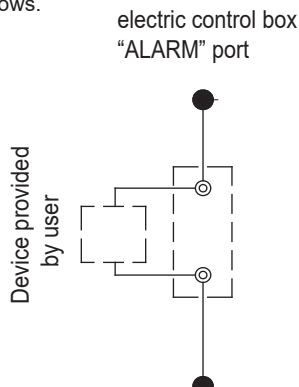

Fig. 8-23 Wiring of "ALARM" port
h) The by-pass pipes and by-pass valves as shown in Fig.8-23 must be mounted for the heat exchanger, to facilitate cleaning of the outside system of water passage before the unit is adjusted. During maintenance, the water passage of the heat exchanger can be cut off without disturbing other heat exchangers.